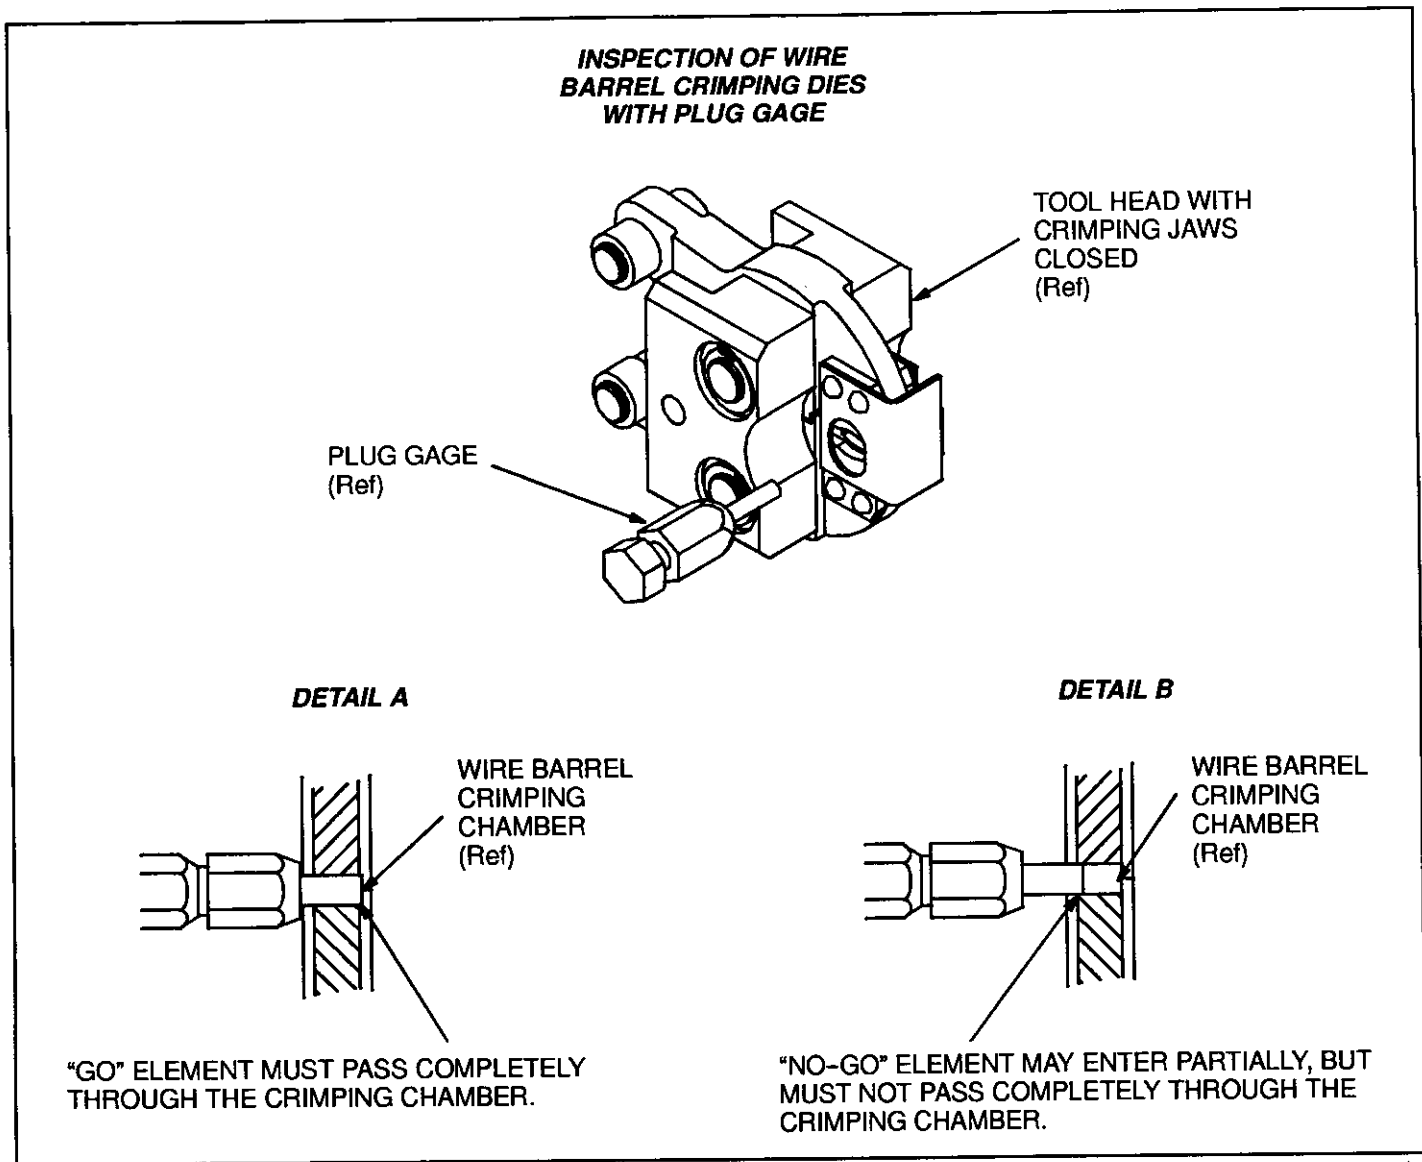

Fig. 7
a. Align the GO element with the crimping chamber, as shown in Figure 7. Push the GO element straight into the crimping chamber without using force. The GO element must pass completely through the crimping chamber as shown in Figure 7, Detail A.
b. Align the NO-GO element with the crimping chamber; then try to insert it straight into the crimping chamber. The NO-GO element may start entry but must not pass completely through the crimping chamber, as shown in Figure 7, Detail B.